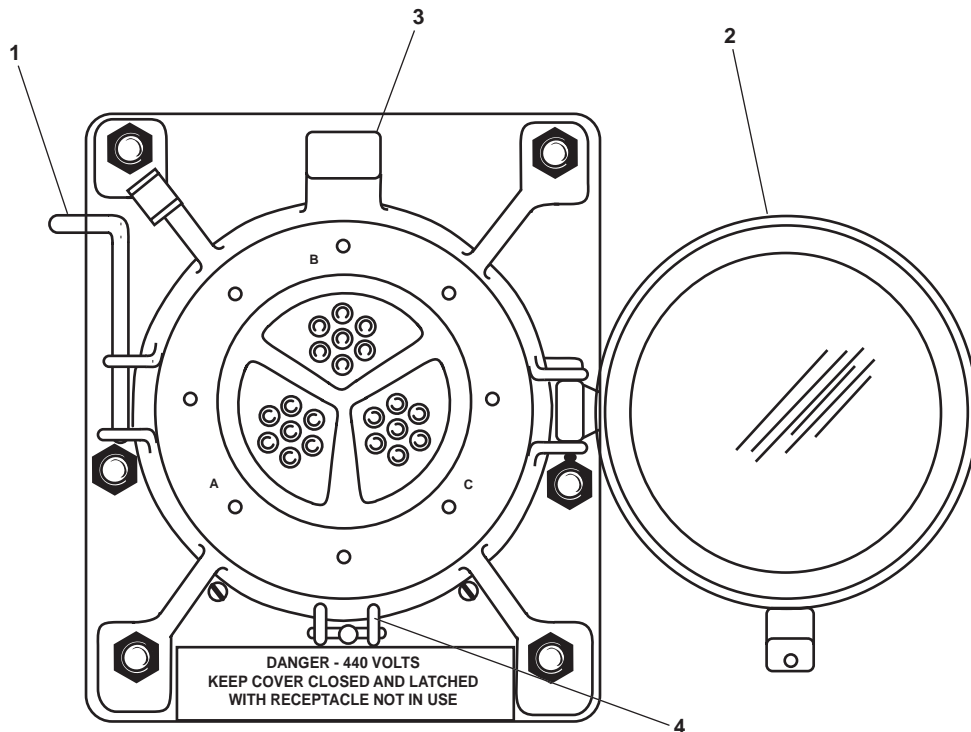

Figure 1. Shore Power Connector
9. At the vessel shore power connector, turn the handle (figure 1, item 1) OPEN the cover (figure 1, item 2).
10. Align the cable connector and insert slot over the tongue (figure 1, item 3).
11. Secure the cable clamp (figure 1, item 4) on the bottom of the cable connector with the shore power connector.